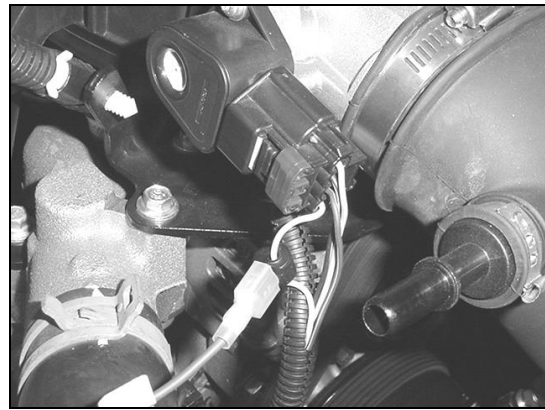

Figure 11
11. Connect the yellow / white striped wire on the WOT/Window Switch using a T-tap (provided) to the vehicle's TPS reference signal wire (typically "TP sensor signal" in the factory service manual). **See Figure 11.** For help identifying proper wire, **see Section 2.12.**